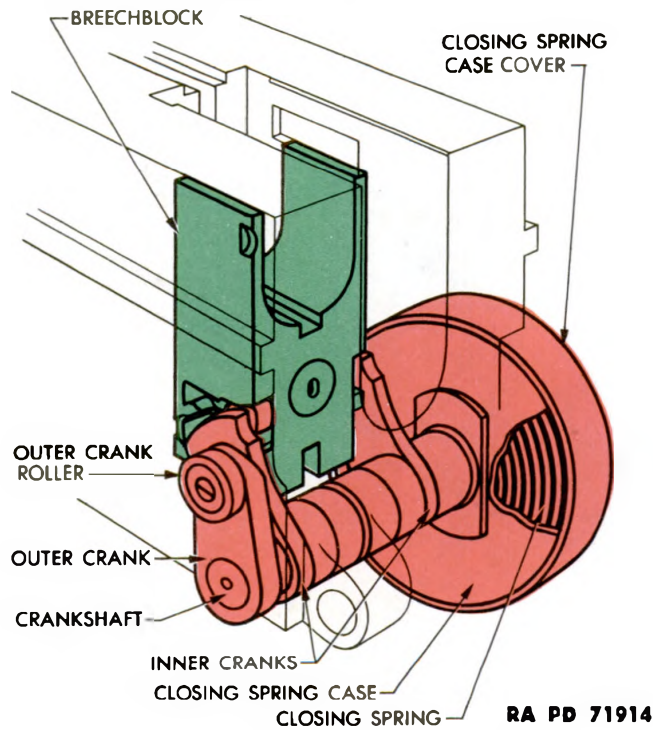

Figure 14 – Closing Spring Raising Breechblock
(1) The breech ring outer crank assembly raises and lowers the breechblock to closed and open positions. This mechanism consists of the breech ring outer crank, outer crank roller, outer crankshaft, left inner crank, crankshaft collar, right inner crank, and the closing spring assembly. The latter consists of the closing spring, closing spring case, and closing spring case cover (fig. 14).
(2) When the outer crank is actuated, either by the hand operating lever (hand operation) or the cam surface on the inside of the side operating cover (automatic operation), the crankshaft is rotated. This causes the inner cranks to lower the breechblock by means of lugs which bear on the surfaces of the grooves near the bottom of the breechblock. The rotation of the crankshaft also winds up the closing spring, storing energy which is used to rotate the crankshaft assembly to lift the breechblock and close the breech.